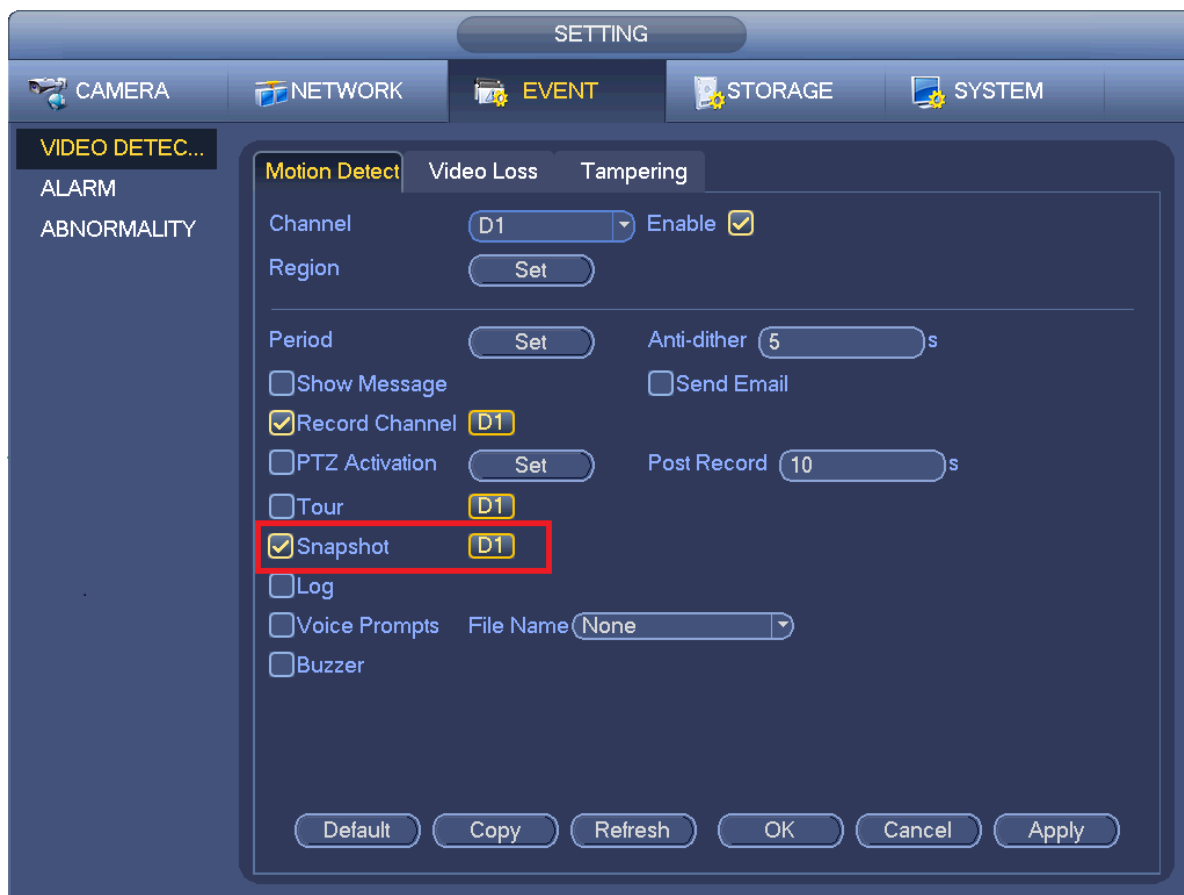

Figure 4-35
- When the record type is MD (motion detect), alarm, MD&Alarm, please enable the channel snapshot function when corresponding alarm occurs. For example, when the alarm type is MD, from main menu->Setting->Event->Video Detect->Motion Detect, please select the snapshot channel and enable snapshot function. See Figure 4-35.